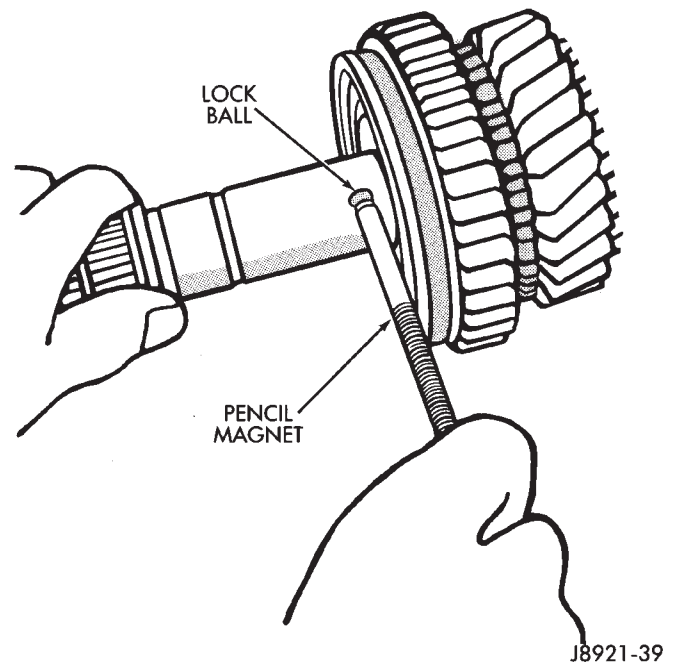

Fig. 104 Remove First Gear Bearing Inner Race Lock Ball
(5) Remove first gear needle roller bearing from output shaft.
(6) Remove first gear bearing inner race lock ball with pencil magnet (Fig. 104).
(7) Remove first gear synchronizer ring.